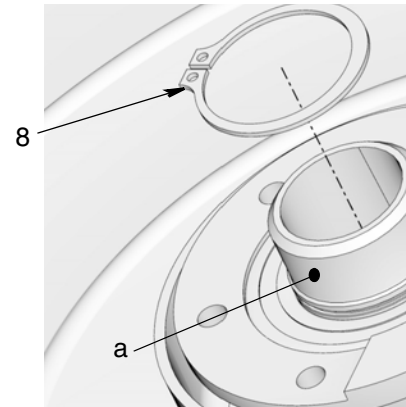

FIG. 27
- a. Use a snap ring pliers to remove snap ring (8) (FIG. 27).